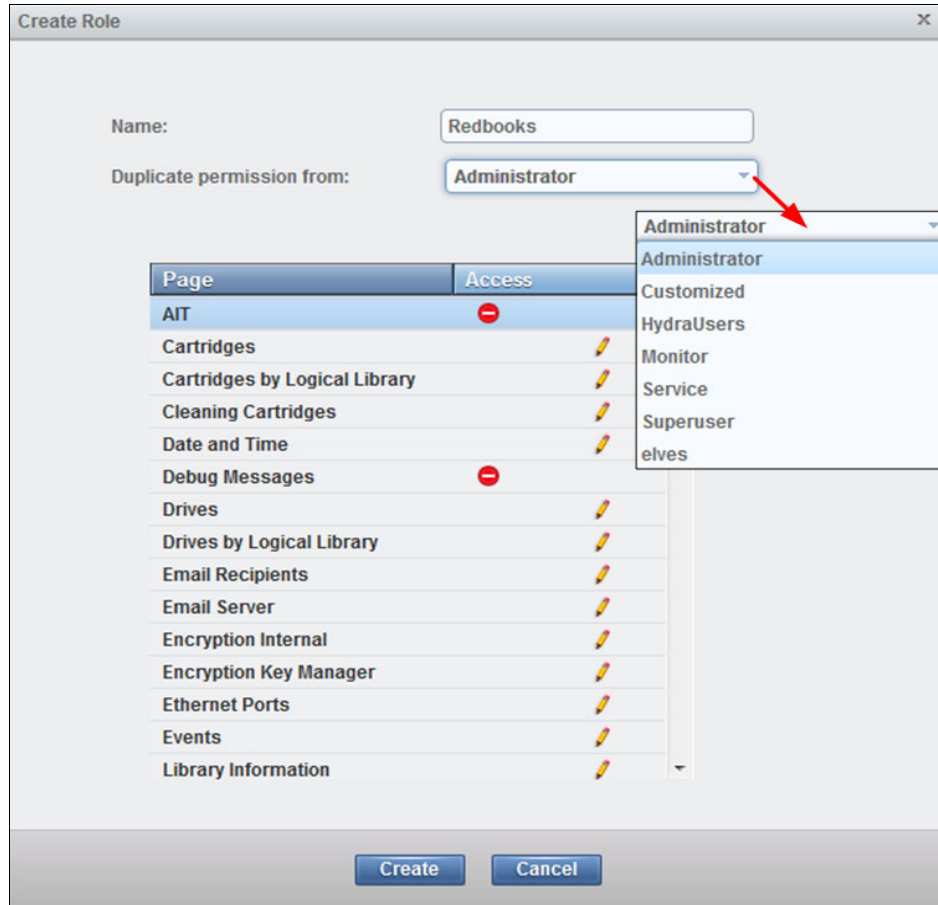

Figure 4-63 Creating a role
4. Select one of the preset role permission levels from the Duplicate permission from list box (see Figure 4-63). All roles can access all logical libraries in the TS4500 tape library.